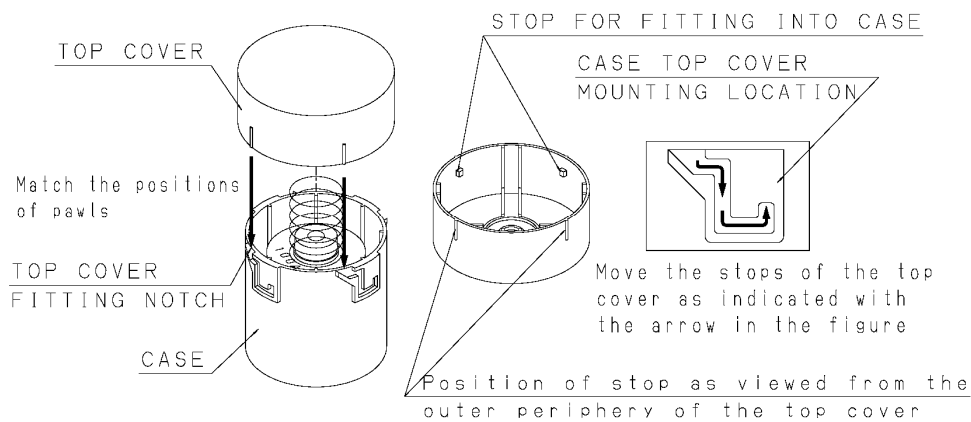

Fig. 6 Mounting the top cover in position
- (6) Center the relief valve spring with the OMS retainer to mount it.
(7) To mount the top cover, match the stops on the inside wall of the top cover with the fitting notches on the outer periphery of the case as shown in Fig. 6 and mount it by reversing the removing procedure.